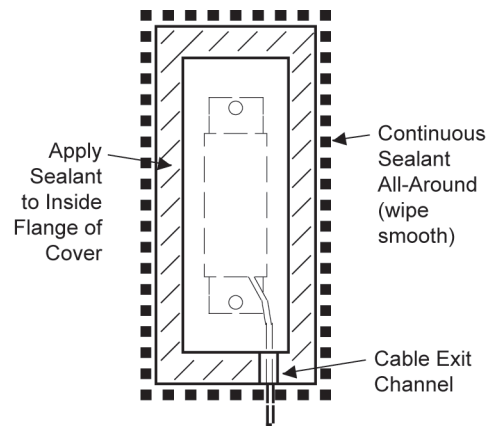

Figure 3-9. Environmental Cover.
10. See Figure 3-9. Apply a generous bead of sealant to the inside flange of the environmental cover. Add extra sealant to the cable exit channel.